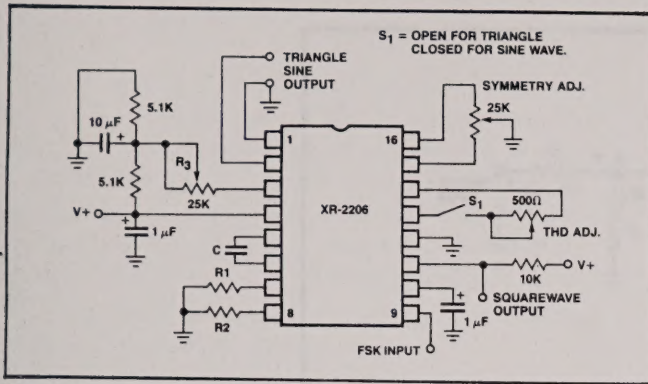

Figure 1: Basic Test Circuit.
**Test Conditions:** Test Circuit of Figure 1,  $V^+ = 12V$ ,  $T_A = 25^\circ$ ,  $C = 0.01 \mu F$ ,  $R_1 = 100 k\Omega$ ,  $R_2 = 10 k\Omega$ ,  $R_3 = 25 k\Omega$  unless otherwise specified.  $S_1$  open for triangle, closed for sine wave.